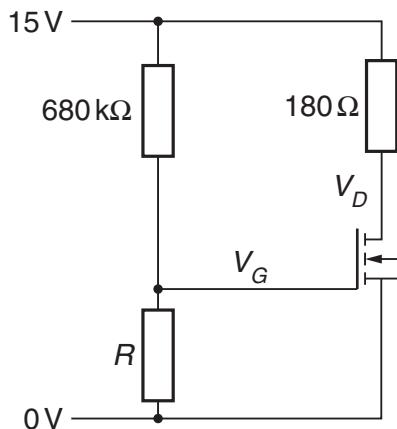
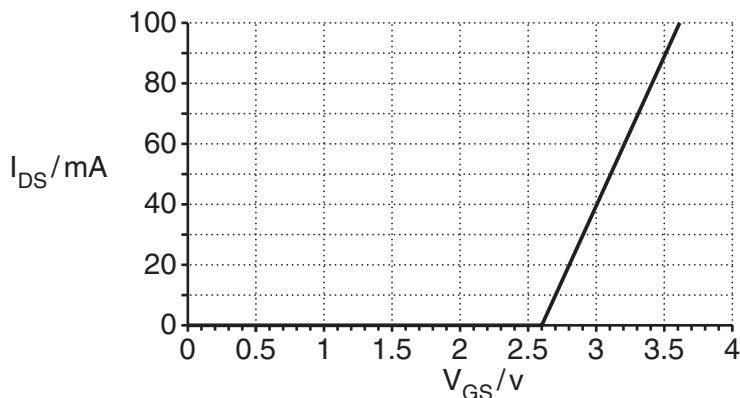

Fig. 5.1
Fig. 5.2
- 5 Fig. 5.1 shows the circuit for an amplifier built by a teacher.
- (a) Draw on Fig. 5.1 to show how two capacitors can be added to the circuit to connect a.c. input and output circuits. Label the input and the output. [4]
- (c) The graph in Fig. 5.2 shows I_{DS} against V_{GS} for the MOSFET in Fig. 5.1.
Use information from the graph in Fig. 5.2 to show that the voltage V_D is about half the supply voltage.
- (e) Use the graph in Fig. 5.2 to find the threshold voltage of the MOSFET.
- (g) A student accurately builds a copy of the teacher's circuit in Fig. 5.1 using new components. The circuit does not work well as an amplifier. When the student tests their circuit they find that $V_D = 1\text{ V}$. Suggest why the student's circuit is not operating in the same way as the teacher's circuit.